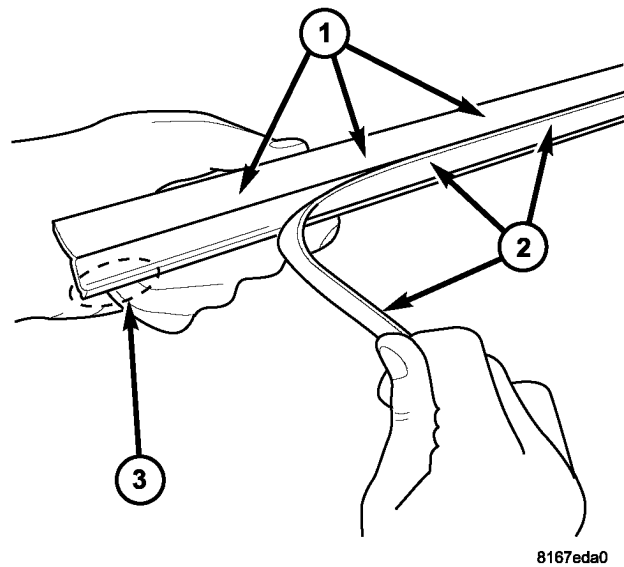

Fig. 2 SECONDARY SEAL REMOVAL
- a. Remove the secondary (lower) seal from the main body of the inner belt line molding. This can be accomplished by making a “starter” cut at one end of the secondary seal. Carefully pull on the loose end of the secondary seal to remove it from the main body of the inner belt line molding (Fig. 2).